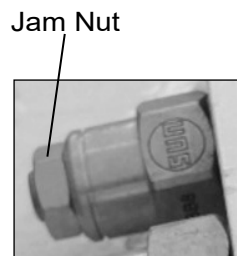

Figure 6 — Incorrect Counterbalance Valve
- If the jam nut is visible on the end of the cartridge, the counterbalance valve is incorrect (refer to Figure 6).